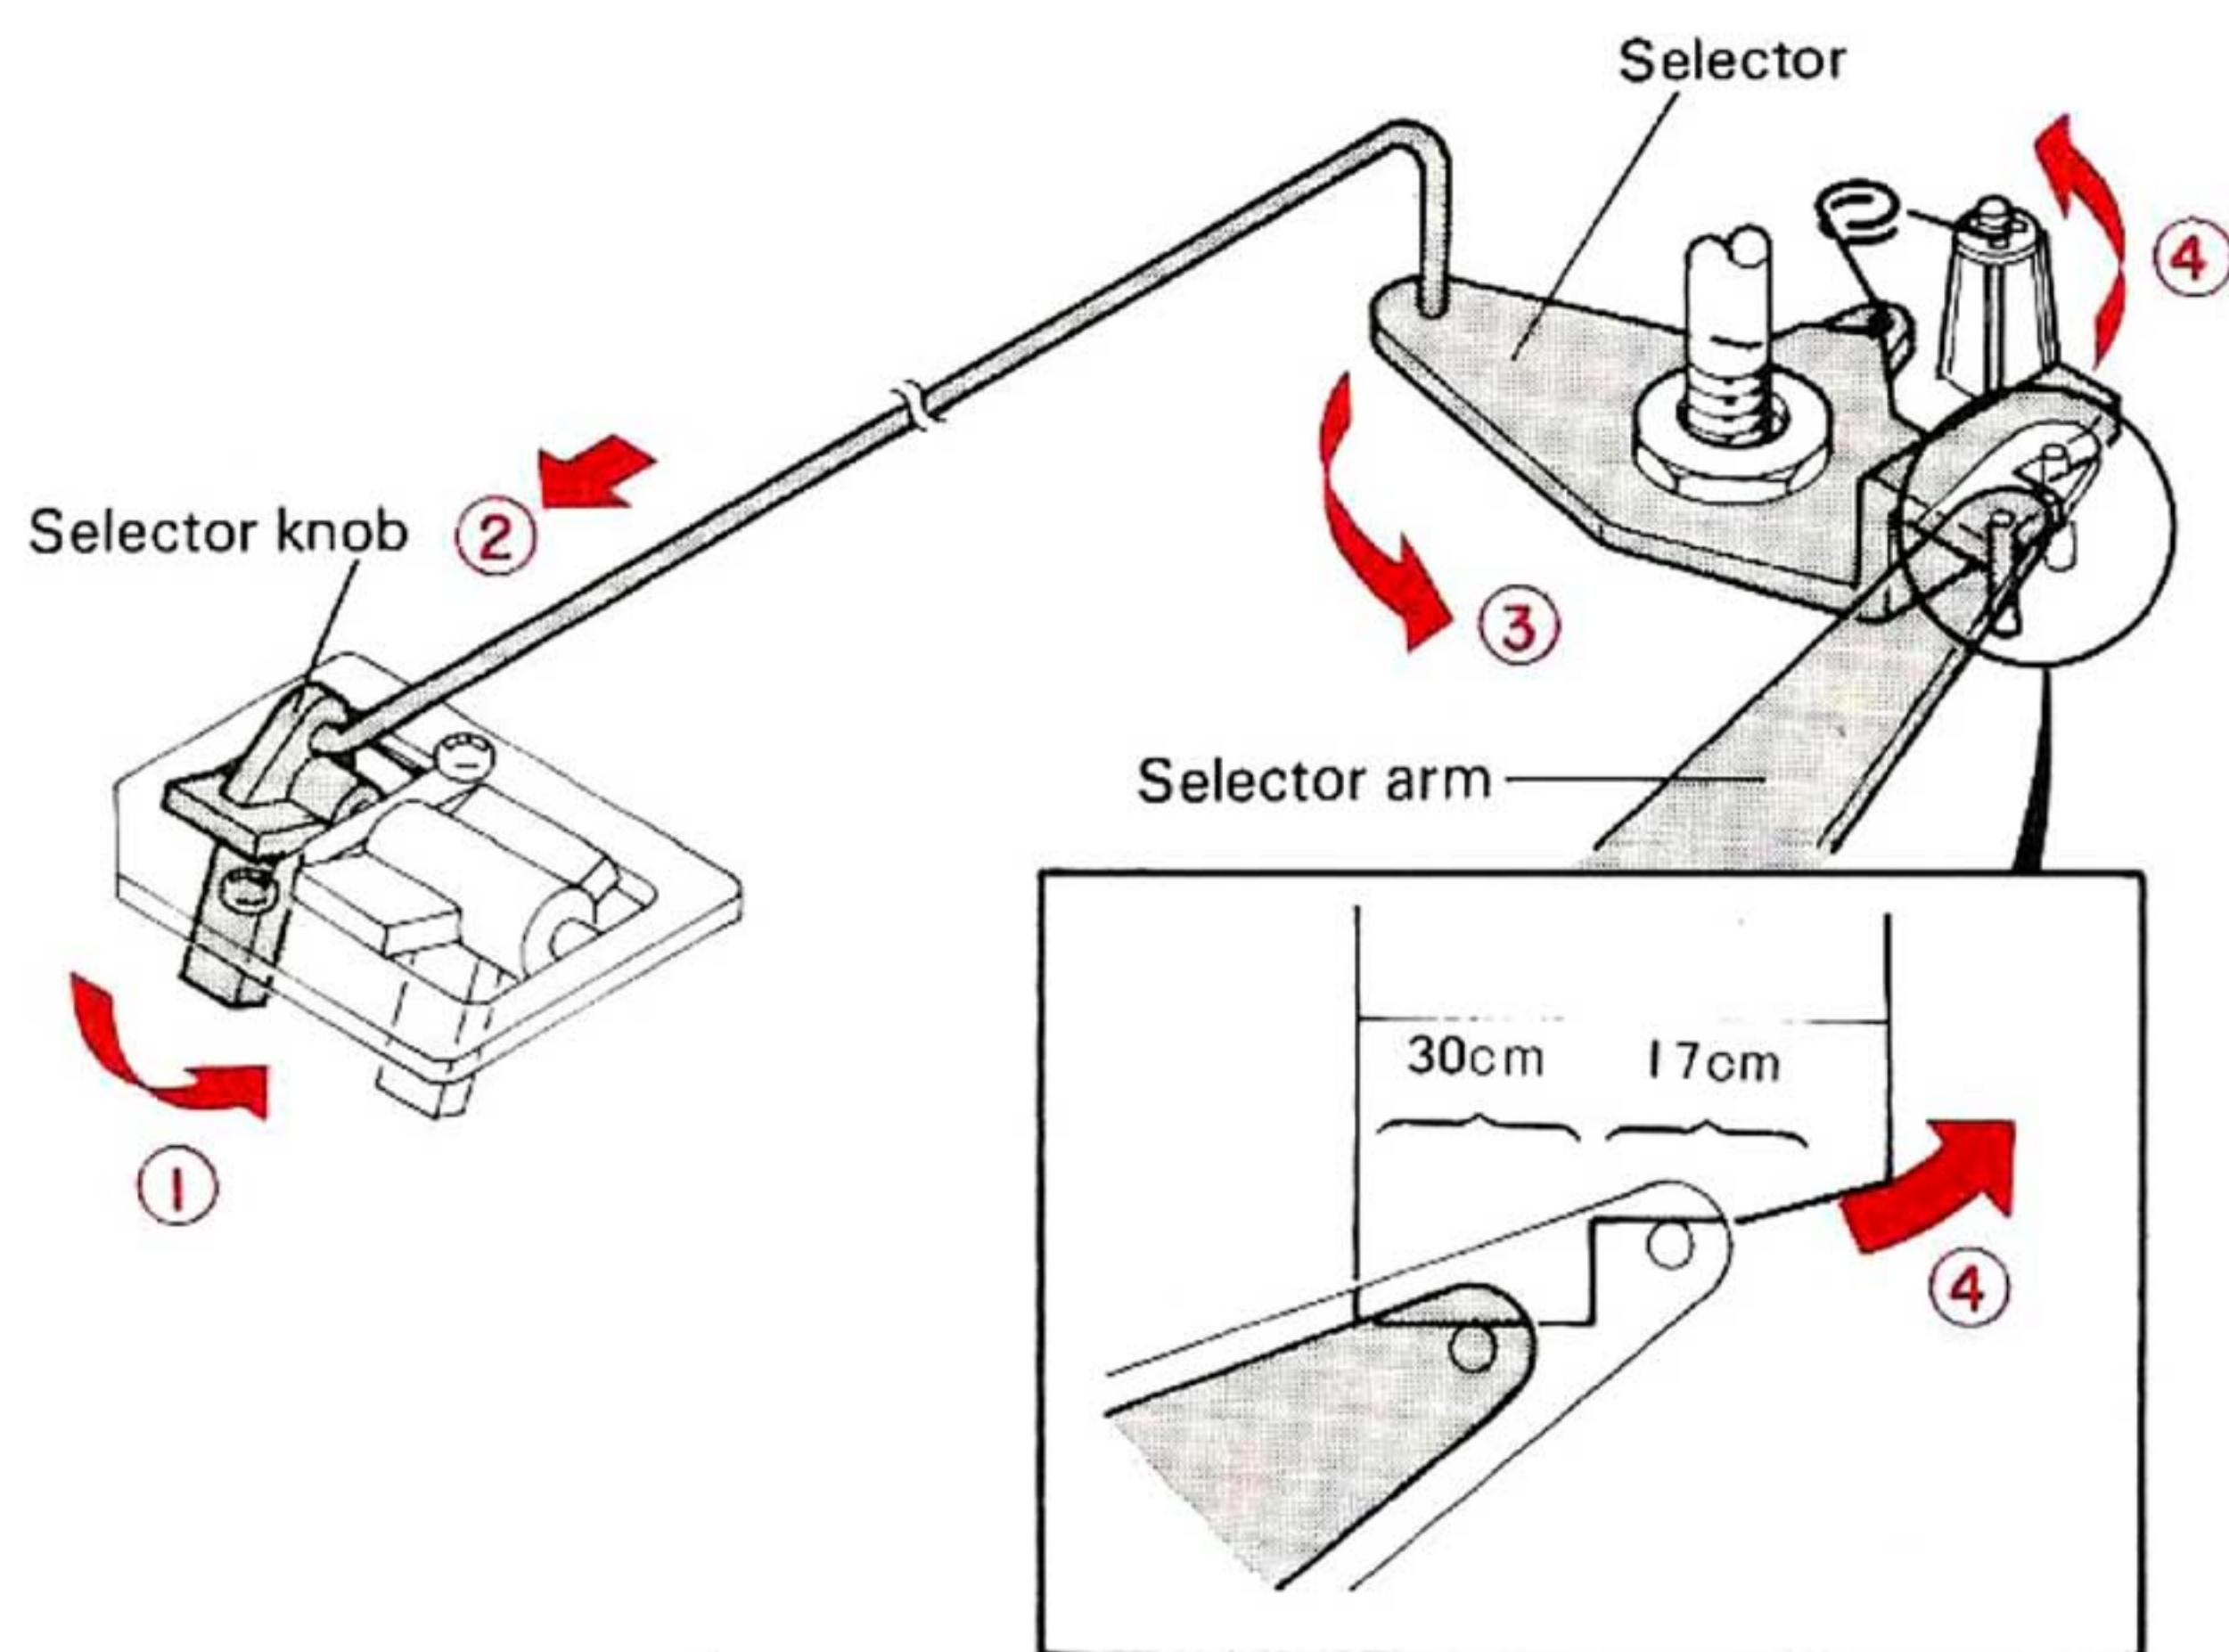

Fig. 4-2 Record Size Selector
When the record size selector knob is tilted for 30 cm record side (direction ①), the selector is turned in direction ③ and ④. The selector arm comes in contact with the "30 cm" position of the selector (Fig. 4-2).